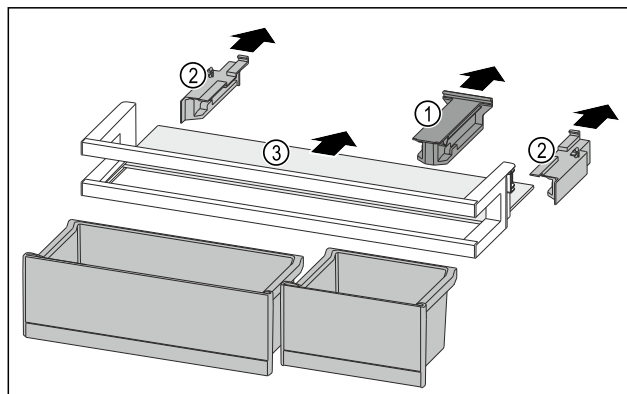

Fig. 116
- Pull off the holding part Fig. 116 (1).
- Pull off the side parts Fig. 116 (2).
- Remove the shelf Fig. 116 (3).